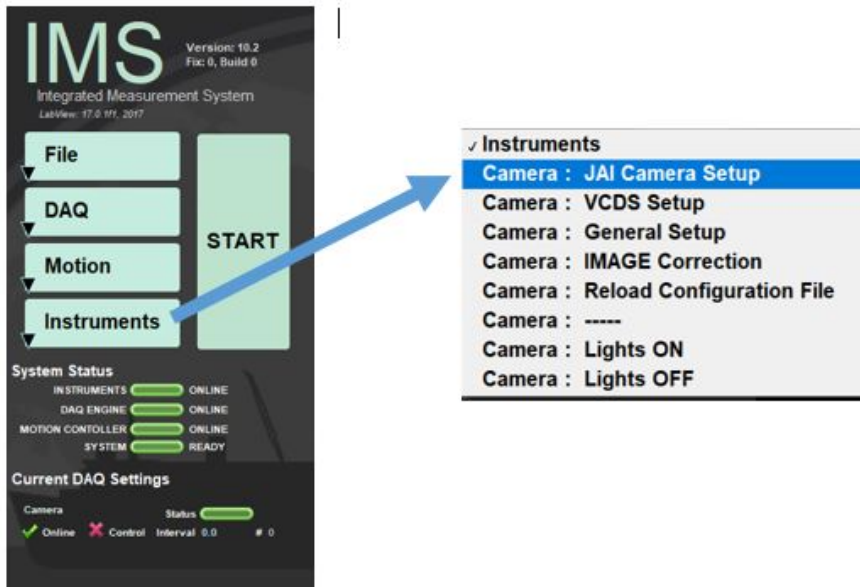

Figure 8. Selecting JAI Camera Setup
2. Open **JAI Camera Setup** utility: In the **IMS control panel** click **Instruments > JAI Camera Settings** (Figure 8). The lights turn on automatically when the JAI Camera Setup window opens.